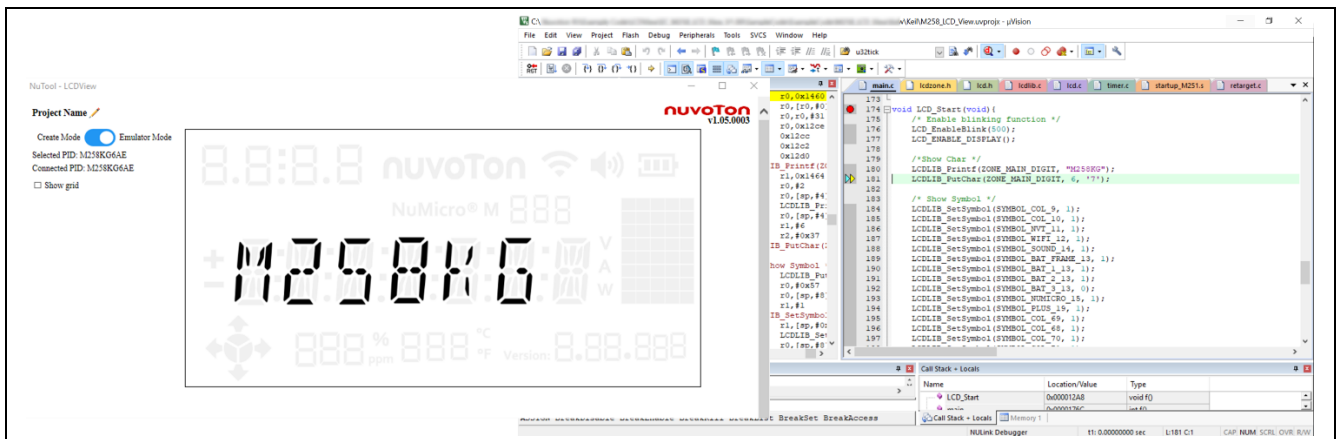

Figure 1-18 Single-step Debug and Emulator Mode
- LCDView will show the effect along with the single-step debug code, which greatly helps engineers to check the code before getting an actual LCD device, as shown in Figure 1-18.